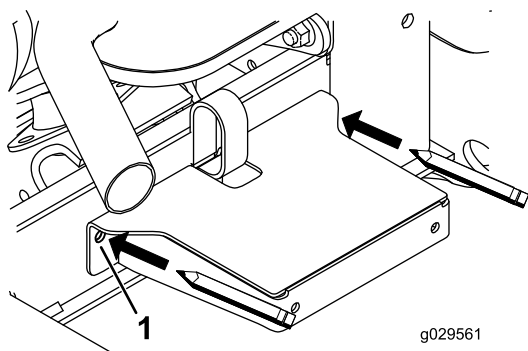

Figure 19
8. Use the frame mount as a template to locate and mark the other 2 fender mounting holes in the frame channel (Figure 19).